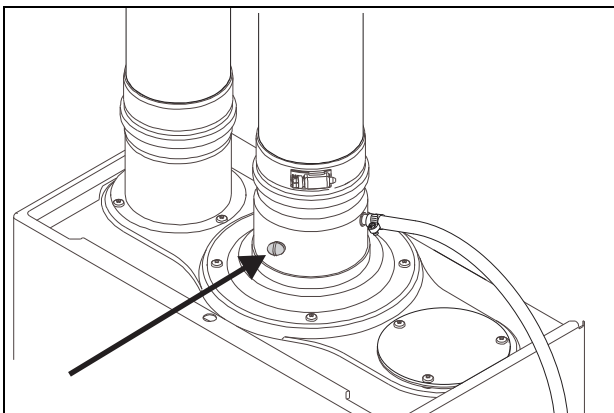

Fig. 5
- ▶ Turn ON/OFF switch to the OFF (O) position.
- ▶ Remove brass flat head screw on the exhaust collar, see Fig. 5.